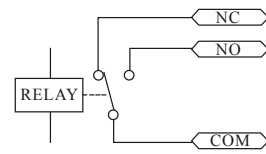

Figure 2
- 2.Electric lock interface (See Figure 2)